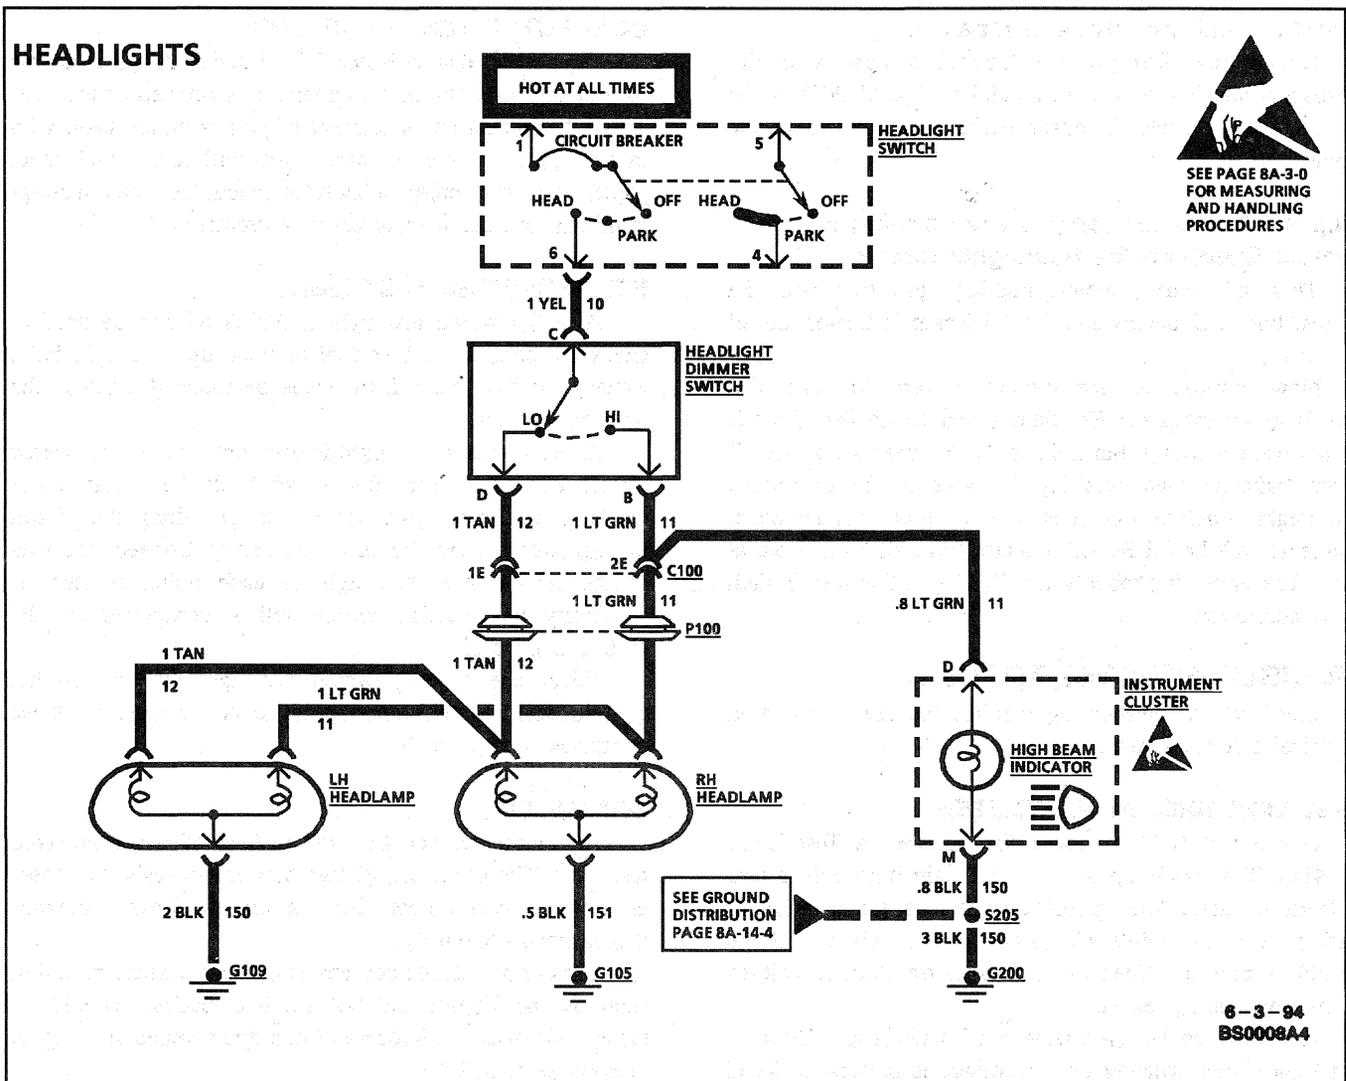

Figure 1—Typical Headlights Schematic
Step 2: Read the Headlights Electrical Schematic (Figure 1)